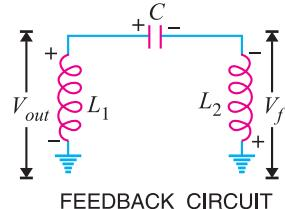

Fig. 14.14
**Circuit operation.** When the circuit is turned on, the capacitor is charged. When this capacitor is fully charged, it discharges through coils  $L_1$  and  $L_2$  setting up oscillations of frequency determined by \*exp. (i). The output voltage of the amplifier appears across  $L_1$  and feedback voltage across  $L_2$ . The voltage across  $L_2$  is  $180^\circ$  out of phase with the voltage developed across  $L_1$  ( $V_{out}$ ) as shown in Fig. 14.14. It is easy to see that voltage feedback (i.e., voltage across  $L_2$ ) to the transistor provides positive feedback. A phase shift of  $180^\circ$  is produced by the transistor and a further phase shift of  $180^\circ$  is produced by  $L_1 - L_2$  voltage divider. In this way, feedback is properly phased to produce continuous undamped oscillations.
\* Referring to Fig. 14.14, it is clear that  $L_1$  and  $L_2$  are in series. Therefore, total inductance  $L_T$  is given by :  $L_T = L_1 + L_2 + 2M$
\*\* Referring to Fig. 14.14, the circulating current for the two inductors is the same. Further, inductive reactance is directly proportional to inductance.